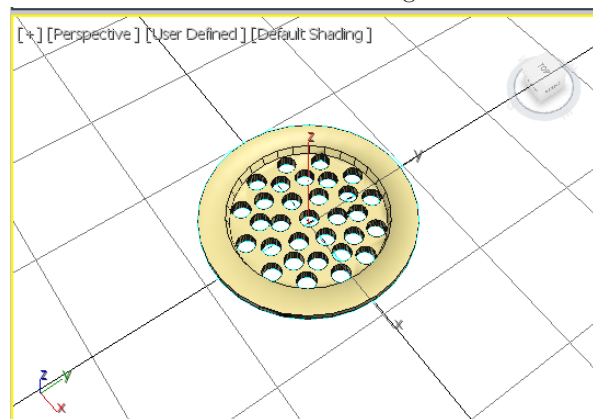

Figure 15-67 A sieve created in the Perspective viewport
9. Select *sieve* in the Top viewport and choose the **ProBoolean** tool from **Create > Geometry > Compound Objects** in the **Command Panel**. In the **Pick Boolean** rollout, choose the **Start Picking** button and click on the cylinders in any viewport one-by-one. Next, right-click to exit the command; a *sieve* is created, as shown in Figure 15-67.